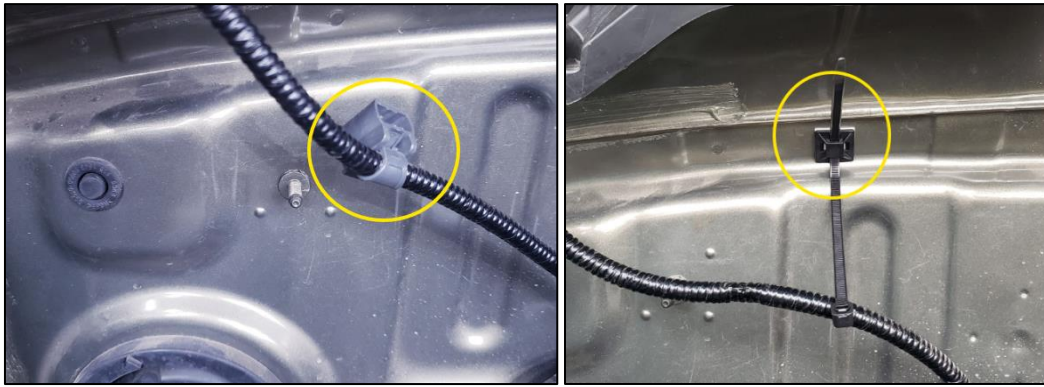
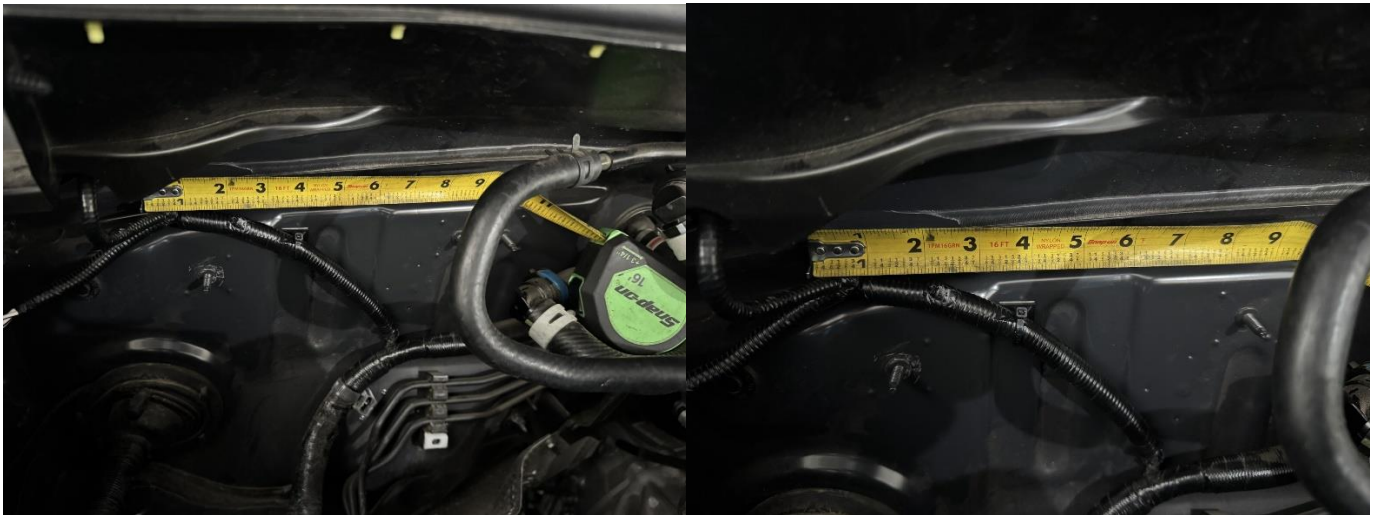

Figure 16. Original cable retainer and replacement adhesive cable tie retainer (Tacoma)
Figure 17. Adhesive cable tie retainer location (4Runner)
- ☐ Remove the cable retainer circled in Figure 16 and discard it.
- ☐ Install the included adhesive cable tie retainer in the position shown in Figure 16 (Tacoma) or Figure 17 (4Runner). Clean the surface prior to installation.